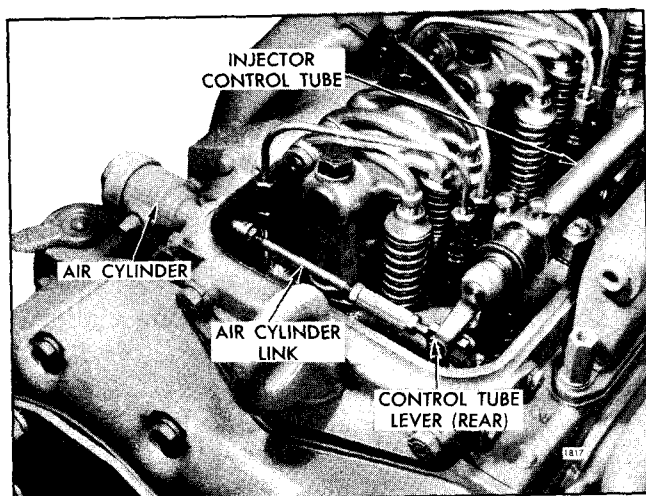

Fig. 4 - Air Cylinder Used with Limiting Speed Governor
An air cylinder is mounted at the rear of the cylinder head on some engines to move the injector fuel control racks to the no-fuel position to stop the engine (Fig. 4). The air cylinder permits the use of a governor with a single control lever, eliminating the need of an off-on lever and the necessary operating linkage.
2. Loosen the locknuts on the air cylinder link (Fig. 4) and lengthen the rod by turning the turnbuckle until the end of the slot contacts the pin in the end of the control tube lever. Then shorten the rod one complete turn of the turn buckle and tighten the locknuts.